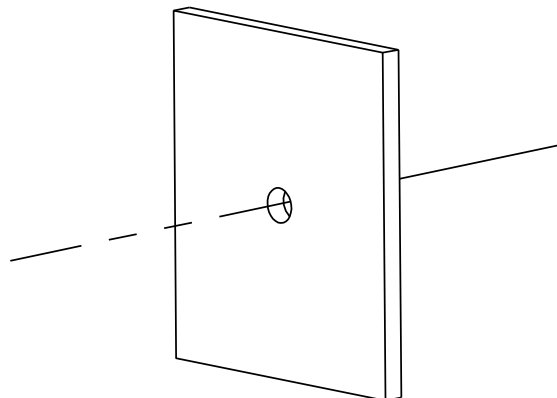

Figure 6-6 Drill on the Surface
1. Drill on the mounting surface. As shown in Figure 6-6.